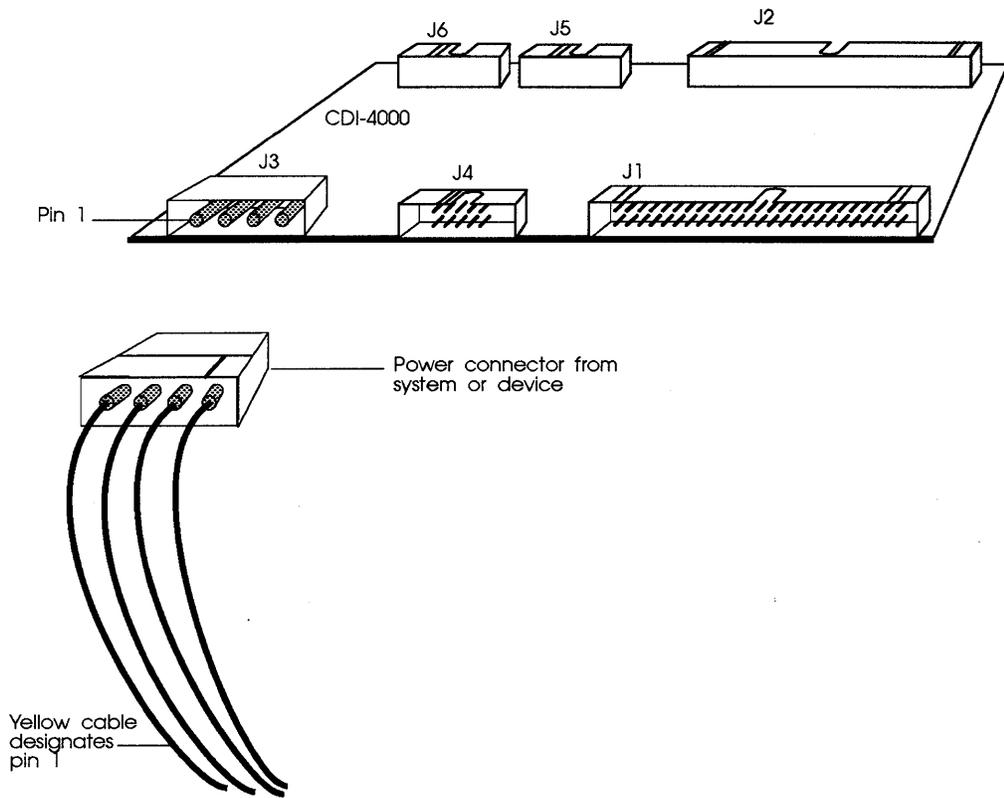

Figure 3-11: Power connection
- 7 Connect the 4-pin power cable to the power connector, J3. Be sure pin 1 from the cable is aligned with pin 1 on the CDI-4000 as shown in Figure 3-11.